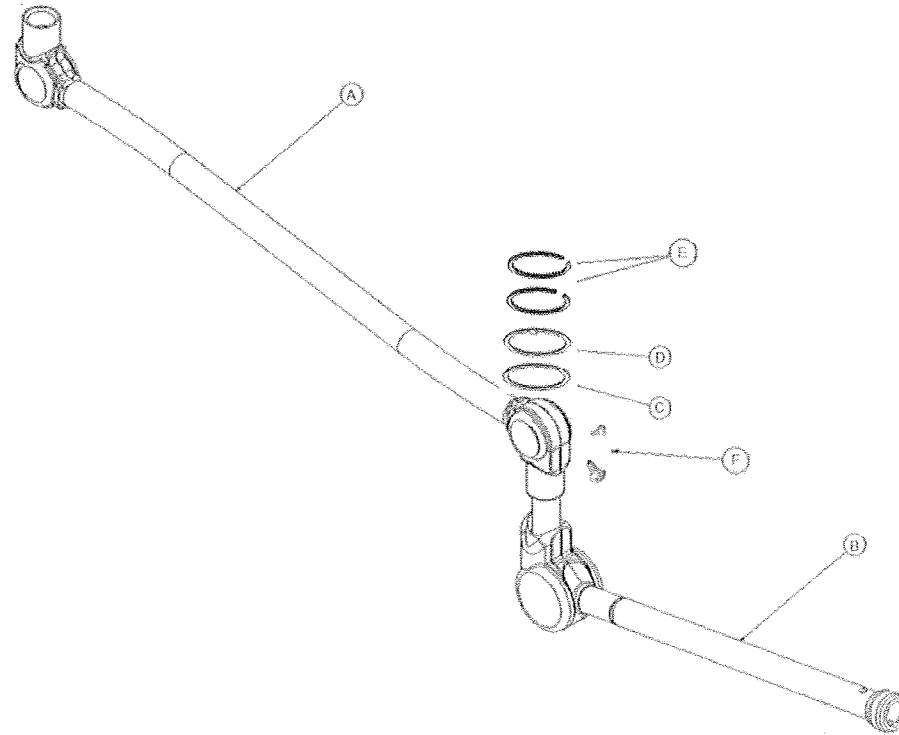

Figure 14: Spring Arm Assembly
12.1 Spring Arm Assembly Parts (Refer to Figure 14)